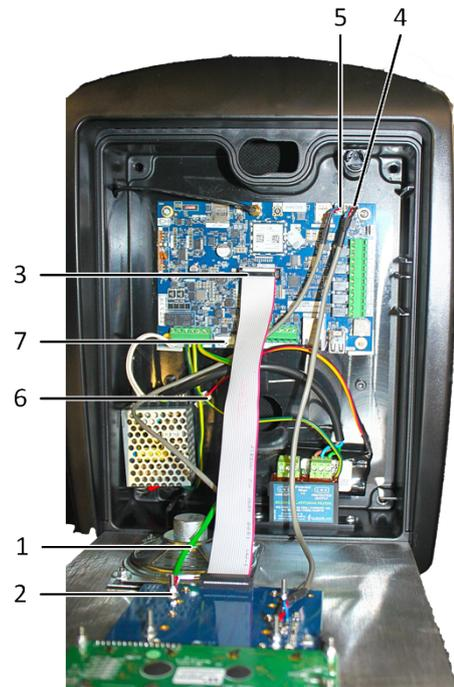

Figure 12: Reconnect PCB
22. Reconnect the earth wire (1) with its nut and washers (2) (See Figure 12).
23. Reconnect the ribbon cable (3).
24. Reconnect the speaker connector (4) to the PCB.
25. Reconnect the microphone connector (5) to the PCB.
26. Connect the battery (6) to the PCB battery connection (7).